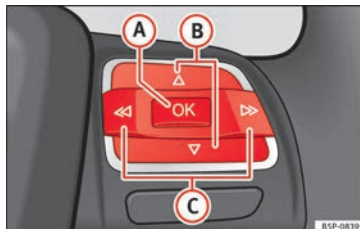

Fig. 37 Controls on the steering wheel: control buttons.
- To access the “Configuration” menu, press button **C** » **Fig. 37** until the menu is displayed. Now you are in this menu.
steering wheel » Fig. 37 » page 50 while the ignition is switched on.
lever or by pressing button  or  » **Fig. 37** on the multifunction steering wheel*: